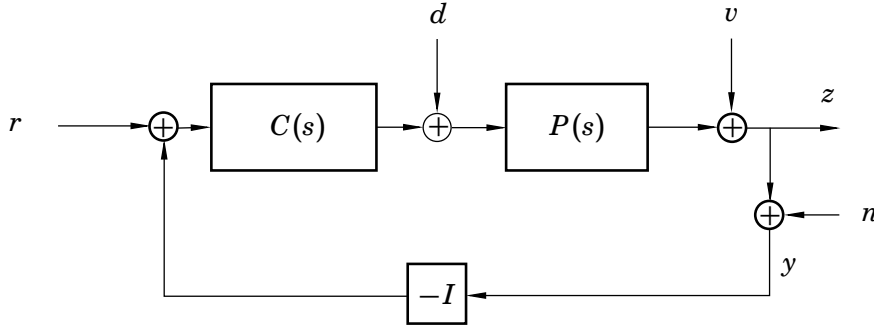

Figure 6.5 System in Problem 6.6
- 6.6** A multi-variable system (block diagram in Figure 6.5) is supposed to attenuate all output load disturbances (v) with at least a factor 10 for frequencies *below* 0.1 rad/sec. Constant output load disturbances should be attenuated by at least a factor 100 in stationarity.